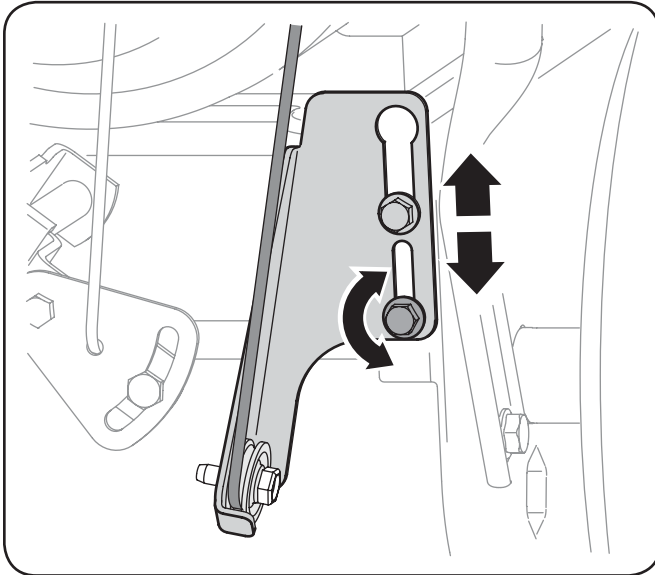

Figure 6-6
2. Loosen the lower hex screw on the drive cable bracket. See Fig. 6-6.